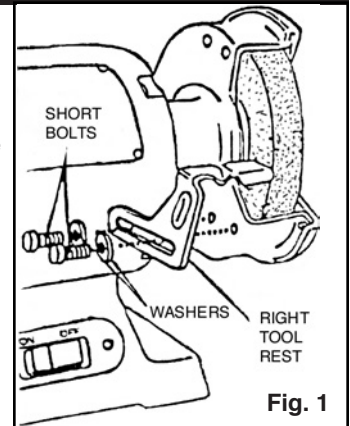

Fig. 1
Remove the tool rests from the package and install them to the wheel guards as shown in Figure 1. Use the bolts and washers to secure them in place.
**Note:** There is a left and right tool rest. Refer to Figure 1 to ensure that you install them correctly.